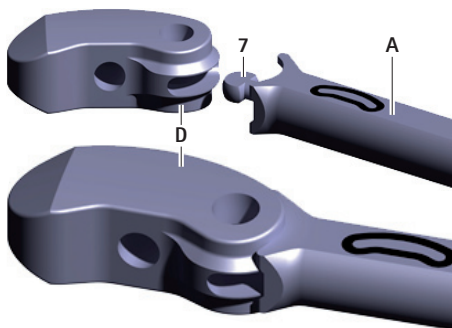

Fig. 2 Coupling the trial implant to the insertion instrument
- Couple the trial implant **D** to the dihedron **7** on the insertion instrument, **A** see Fig. 2. When doing so, pay attention to the orientation of the trial implant (orientation according to the marking on the insertion instrument).